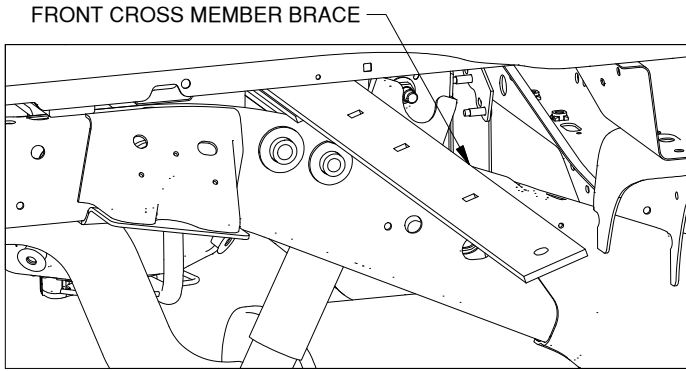

Figure F1: Looking into passenger side wheel well.
1. **Place front cross member brace.** Locate the front cross member brace. From the passenger side, insert the brace between the bed and frame of the truck in front of the center section, as shown in Figure F1, until it spans the driver and passenger frame rails. The end with the notch will go in first so that it matches up with the notch in the front cross member.